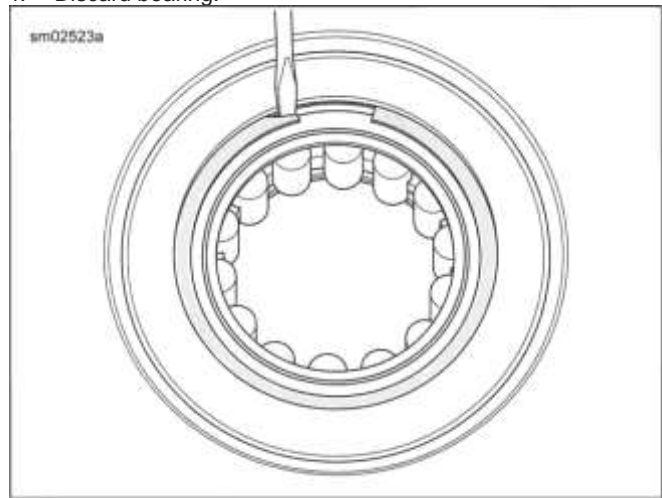

Figure 4-70. Remove Retaining Ring
- See Figure 4-70. Remove bearing retaining ring.